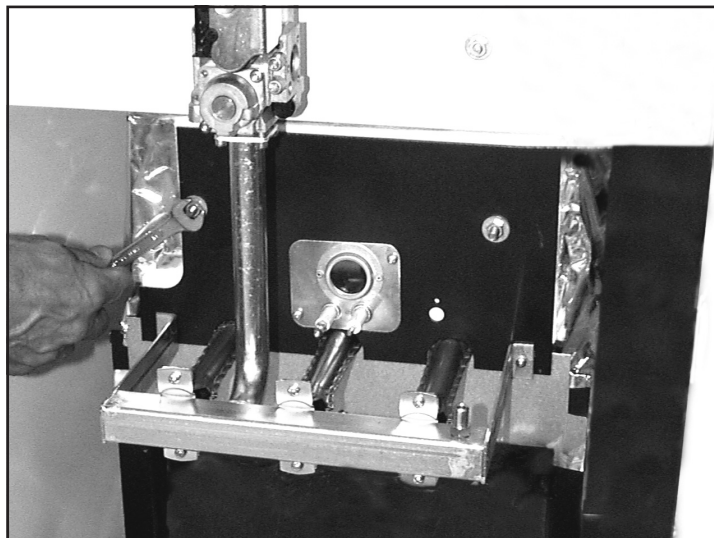

fig. 15
- Unscrew the two nuts which fasten the door of the combustion chamber to the cast-iron parts of the boiler (fig. 15).